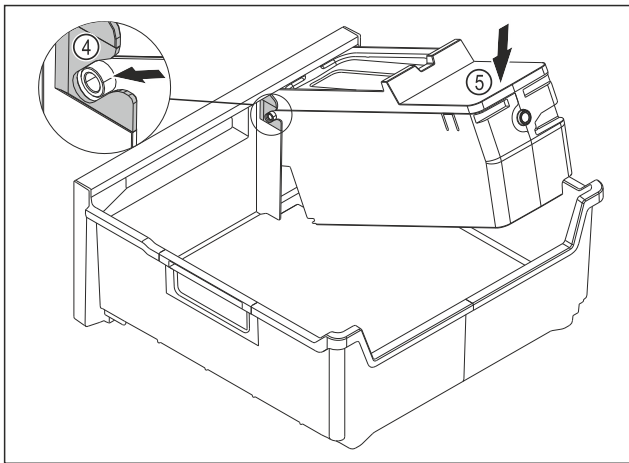

Fig. 148
- ▶ Installing the EasyTwist-Ice body: Push the axes for the EasyTwist-Ice body into the guides Fig. 148 (4).
- ▶ Press the EasyTwist-Ice body Fig. 148 (5) down at the back.